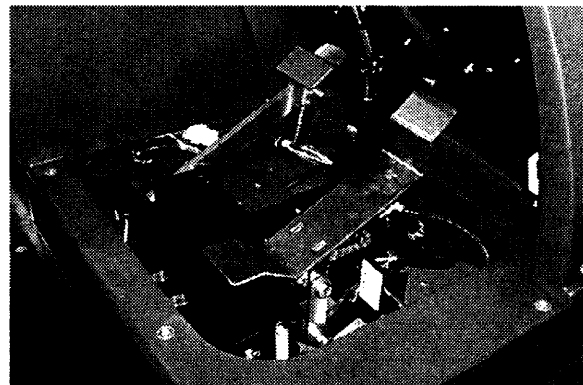

Figure 39
1. To access steering chain, remove five floor panels, 13 mm wrench and Phillips head screwdriver required (Fig. 39).